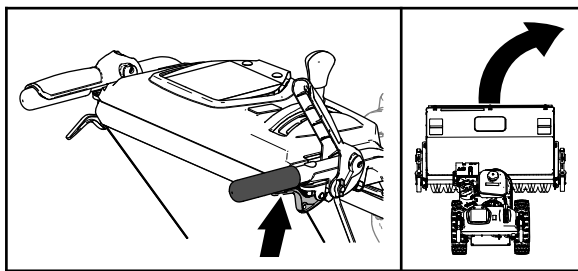

Figure 17
- To turn right, squeeze the traction-drive lever and squeeze the right wheel-clutch lever (Figure 17).